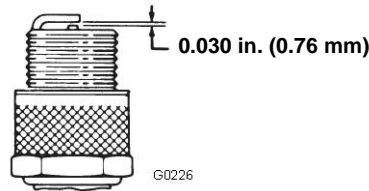

FIGURE 25
5. Set the gap on the plug to 0.030 in. (0.76 mm) (Fig. 25)